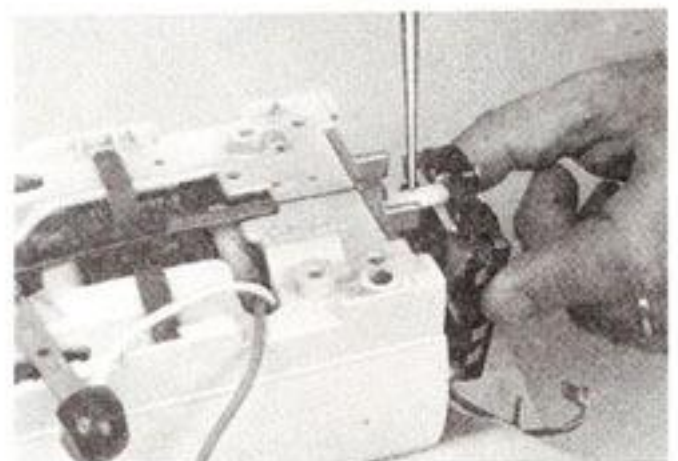

Fig. 50
O. Place the control plate on the bearing with adjusting screws at the top (Fig. 50). Turn in the screws until about 3/8" of the screw remains. Have both screws turned in evenly so the opposite end of the control plate rests squarely on the extensions on the bearing bracket.